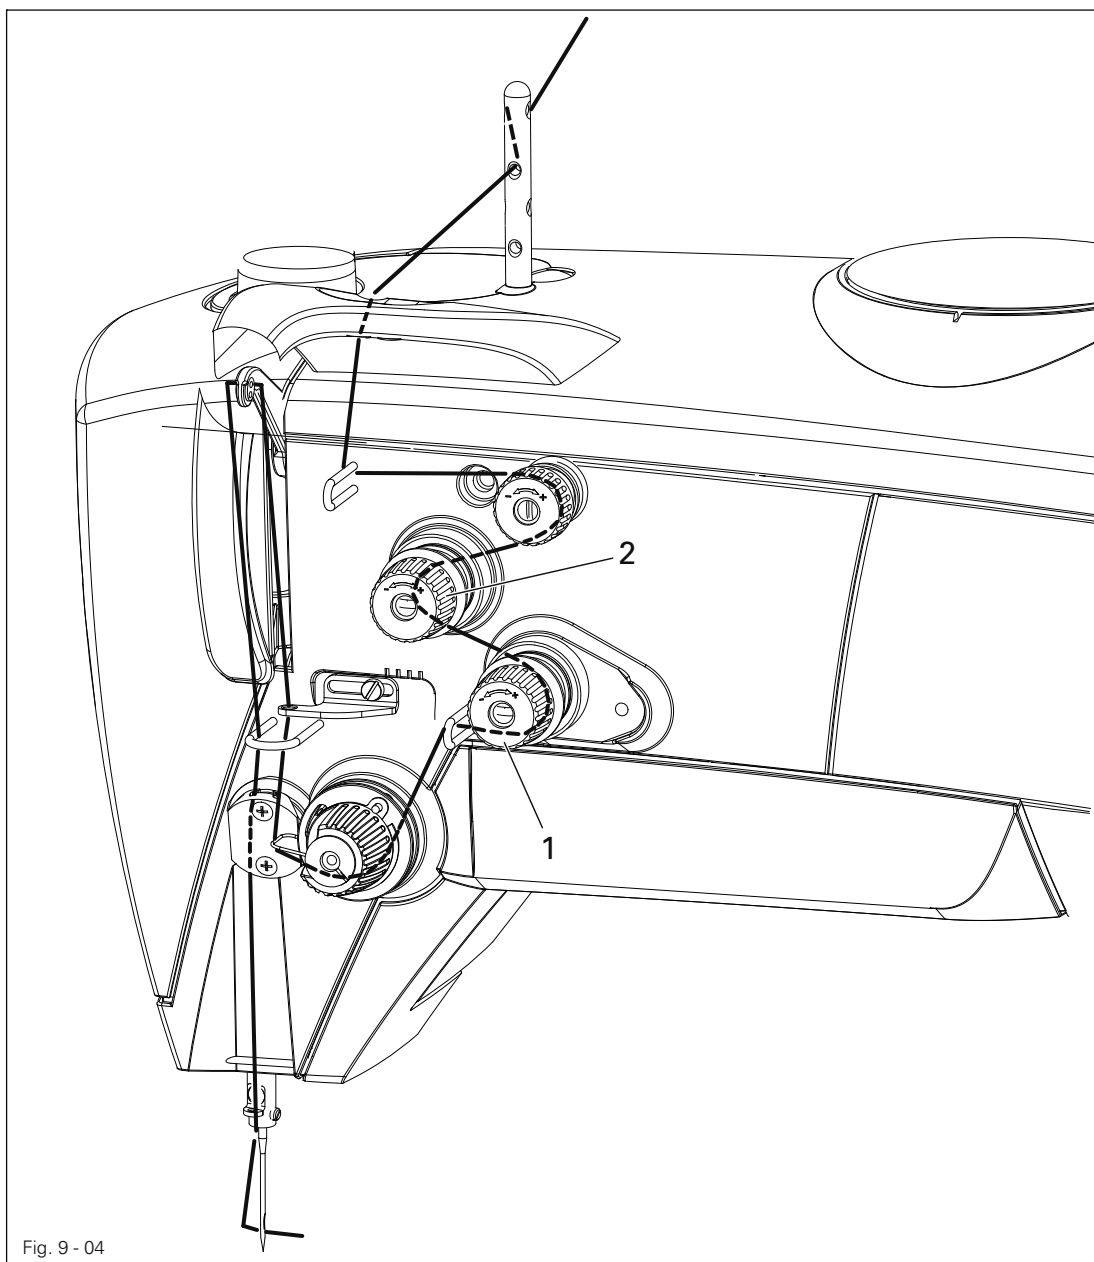

Fig. 9 - 04
- Pass the thread through the slot under the spring according to Fig. 9 - 03a.
- Thread the machine as shown in Fig. 9 - 04.